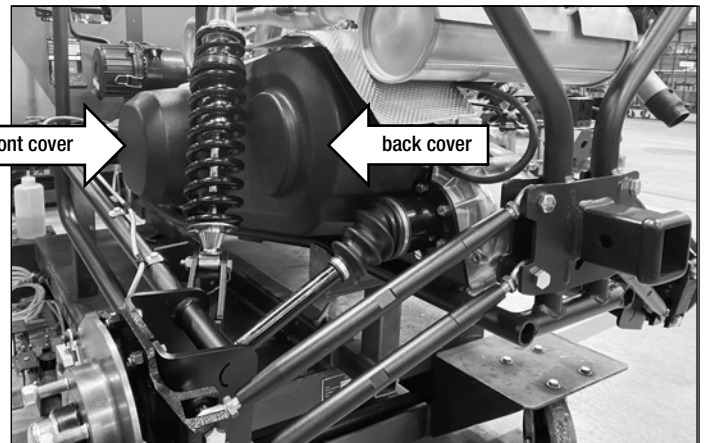

figure 4.4 (drive belt cover - 4WD unit shown)
5. Reinstall the belt guards as shown in figure 4.4.